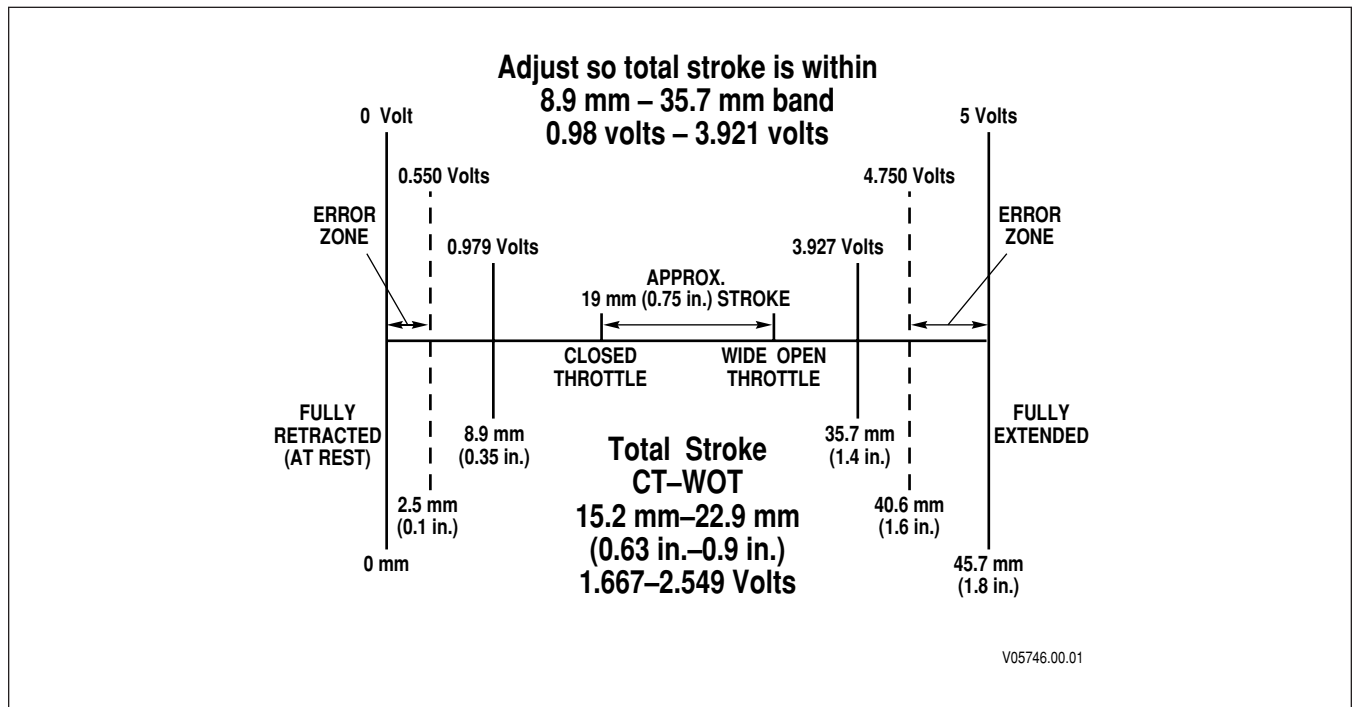

Figure F-2. Throttle Position Determination Diagram
2. Each position gives a different voltage. The TCM then converts this voltage into throttle percent. Each millimeter of travel converts to approximately 0.110 volts. Figure F-2 diagrams the voltage and throttle movement relationship.
When properly installed by the equipment manufacturer (refer to Figure F-3), the TPS should not require adjustment. Confirm that the throttle sensor is installed to manufacturer specifications before adjusting the throttle position sensor. The idle position should be approximately 8.9 mm or 0.98 volts or higher, and the full throttle position should be approximately 35.7 mm or 3.921 volts or lower. The TPS is self-calibrating, meaning there is no optimum closed throttle or wide open position. As long as the travel is within the 8.5–35.7 mm range the TPS is set properly. A total stroke of 15.2–22.9 mm must be maintained. Watch the movement of the throttle sensor as the controls move it through the full stroke. Make certain the idle and full throttle positions are not in the error zones (refer to Figure F-2). The error zones occur when the idle position is less than 2.5 mm, or when the full throttle position is more than 40.6 mm. When idle or wide open throttle positions are in the error zones, the TCM will log a code. When a TPS code is logged the TCM assumes a default throttle setting which will negatively affect shift quality.